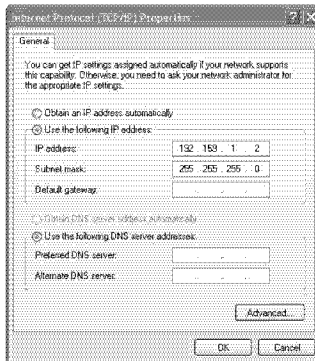

Figure 20: Internet Protocol (TCP/IP) Properties Window
6. Select Use the following IP Address, and fill in the details as shown in Figure 20.